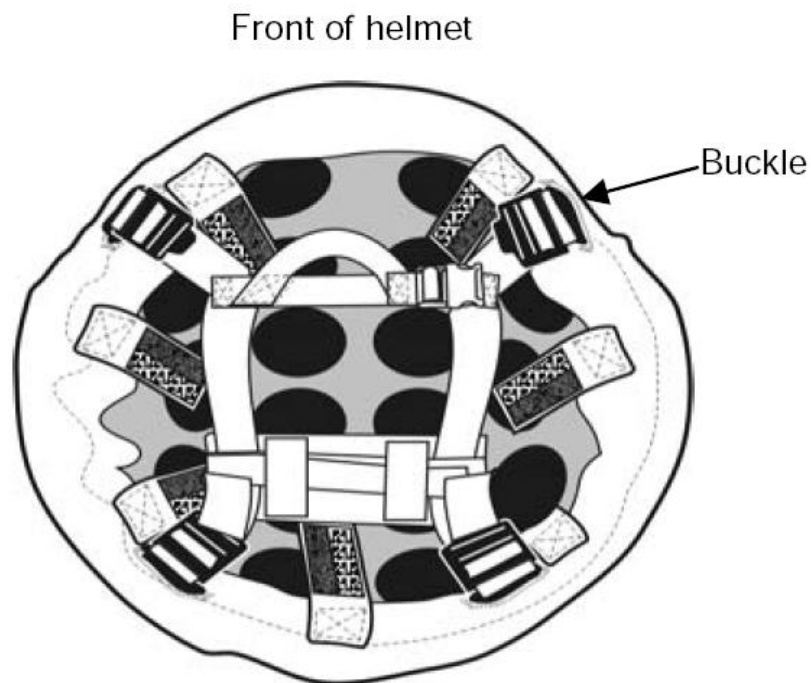

Figure 1. Chin Strap Retention System Orientation (All Models).
2. Lay the helmet on its crown with the front of the helmet away from you. Drape the replacement chin-strap retention system over the helmet with the nape-strap pad facing down on the back/rear of the helmet (Figure 1).